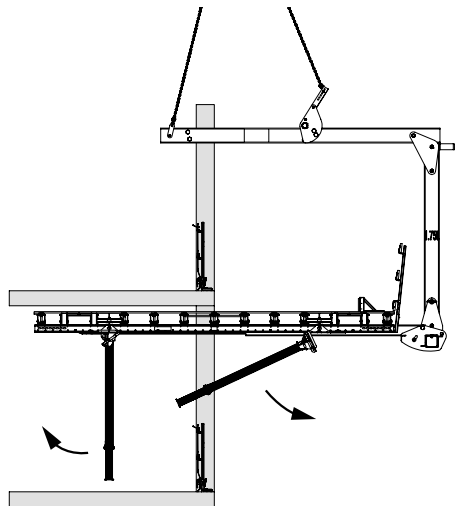

Fig. 22
3. Move slab table using the Table Lifting Fork over the parapet. (Fig. 22)